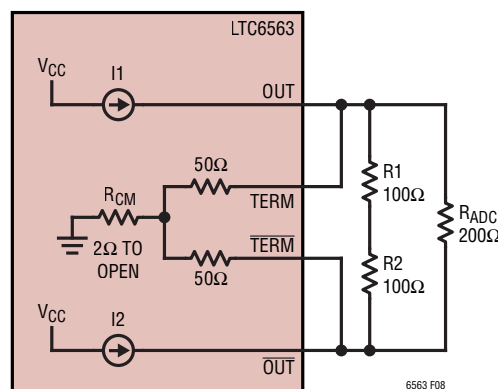
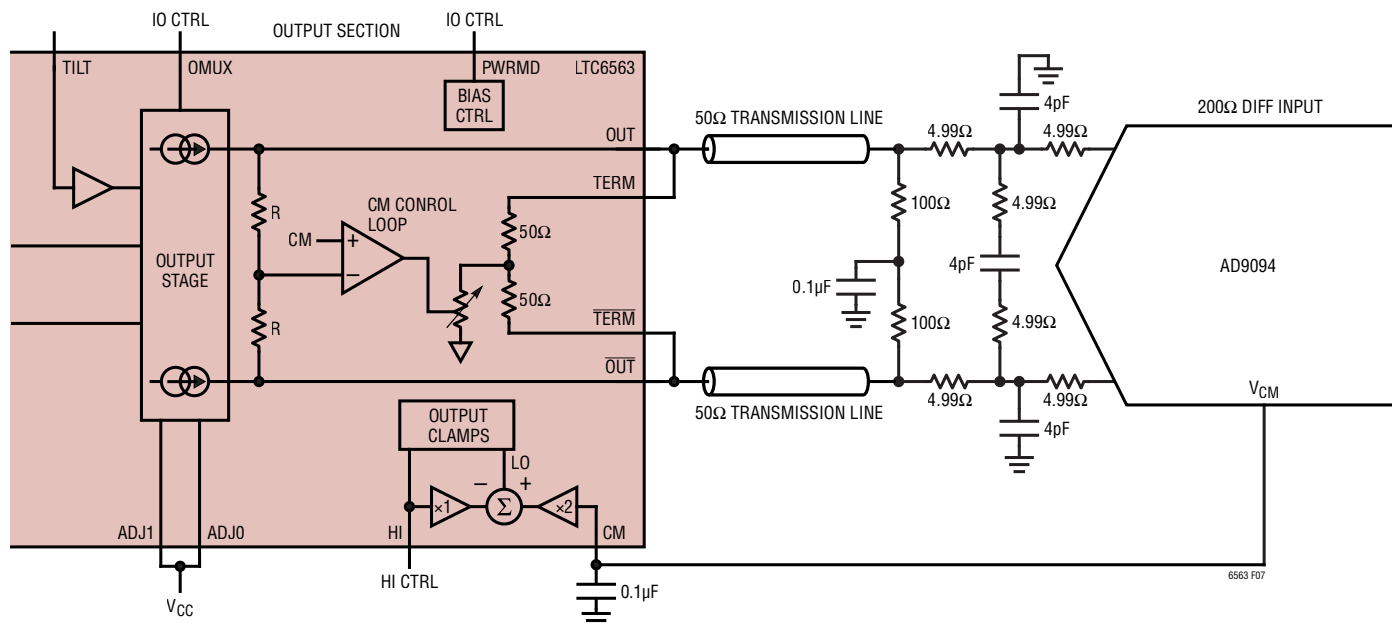

Figure 8. Equivalent Circuit for Driving an ADC with no GND (CM Referenced) External Load
Figure 7. Typical Connection for CM Control/ADC Driving
CM servo loop's voltage range is easily calculated using Ohm's law, as the output circuit can be described as a pair of current sources and a resistor network (see Figure 8). The amount of current supplied by the OUT and \overline{OUT} current sources is determined by the ADJ setting, and the impedance at the output pins is determined by the internal and external resistor networks. These factors will determine the range of possible DC voltages at the outputs.
With an external load connected, the output CM current splits between the internal TERM pin and the external load. However, with the configuration shown in Figure 7 and simplified in Figure 8, with no external CM DC current path to ground, the entire output CM current must flow through the internal TERM resistor(s).
In Figure 8, the external loading by the ADC and the cable termination network of R1, and R2 has no effect on the CM loading of the LTC6563. The range of output CM voltage will be as follows:
Naturally, if the ADJ setting is changed, the V_{CMO} range will vary accordingly. Table 5 shows the minimum computed output CM voltage, output full scale swing, and TIA gain (RT) for various ADJ settings applied to the circuit in Figure 7.
Table 5. CM Minimum Voltage and Other Operating Performance Values for Various ADJ Settings of Figure 7
For the particular case of Figure 7 schematic modified to include $R_{\text{TEE}} = 20\Omega$ with ADJ = 11 ($I_0 = 28\text{mA}$ from Table 1), the AD9094 CM voltage requirement (1.43V) would be easily satisfied since the CM servo loop would be able to adjust the output CM from 1.1V minimum (with $R_{\text{CM}} = 2\Omega$, previously 1.51V minimum from Table 5 without R_{TEE}) to $>2.3\text{V}$ (device output compliance voltage) maximum using Equation 3.